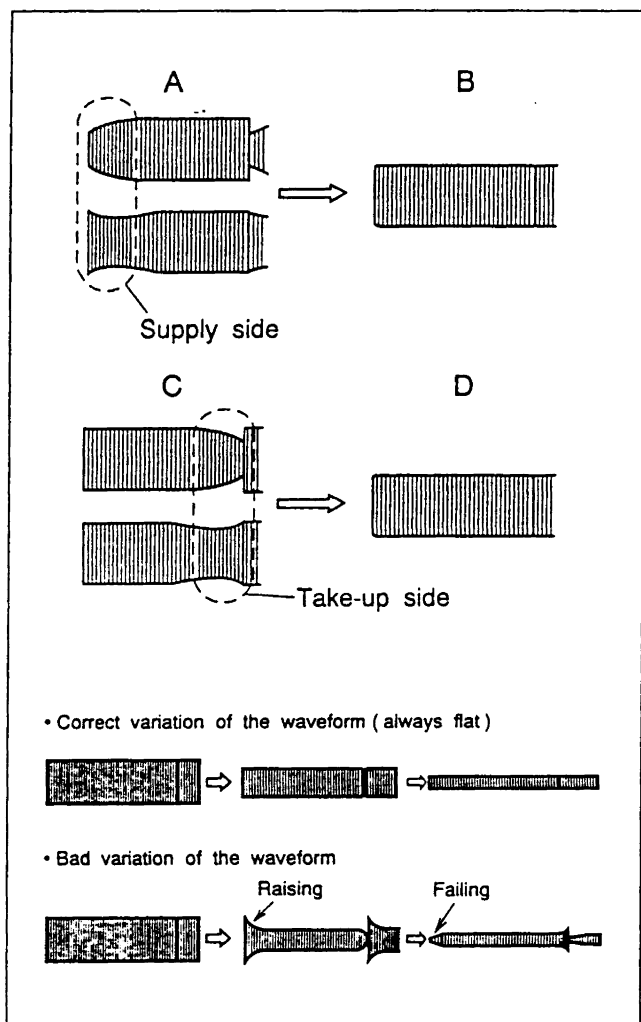
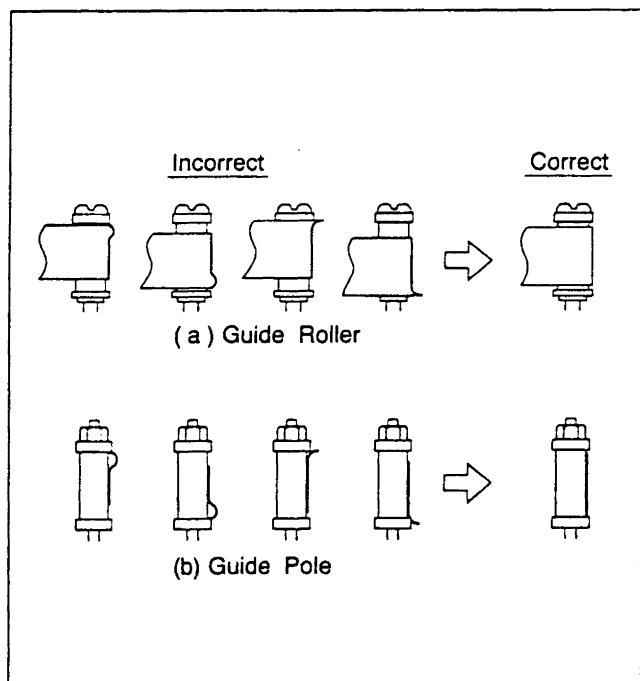
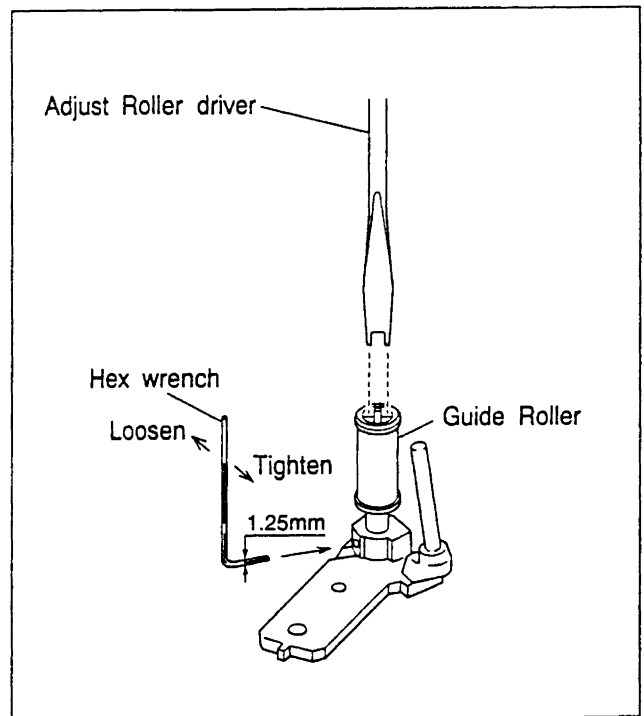

Fig. 2-7-3
Fig. 2-7-4
Fig. 2-7-2
- (6) When the FM waveform does not remain flat during this process,first slightly loosen the set screw located at the bottom of the guide rollers.Using the guide roller adjustment tool (Roller driver) ,adjust the supply and take-up guide rollers (refer to Fig.2-7-2) to obtain the correct waveform as indicated in Fig.2-7-3.
- (7) By pressing the TV PROG buttons several times,vary the FM waveform output from maximum to minimum (and vice versa) gradually,and confirm that the variation proceeds in flat shape, as shown in Fig.2-7-3.
- (8) Next playback the LP staircase portion of the alignment tape [MHPE-L] and adjust the tracking control from maximum to minimum the FM waveform,confirm that FM waveform variation is always flat.
- (9) Record the signal and play it back in both of the SP and LP mode,confirm that the FM waveform is flat in both mode.
- (10) After adjustments,tighten the set screw of the guide rollers.
- (11) Confirm that the tape wrinking does not occur at the roller upper or lower limits as indicated in Fig.2-7-4.